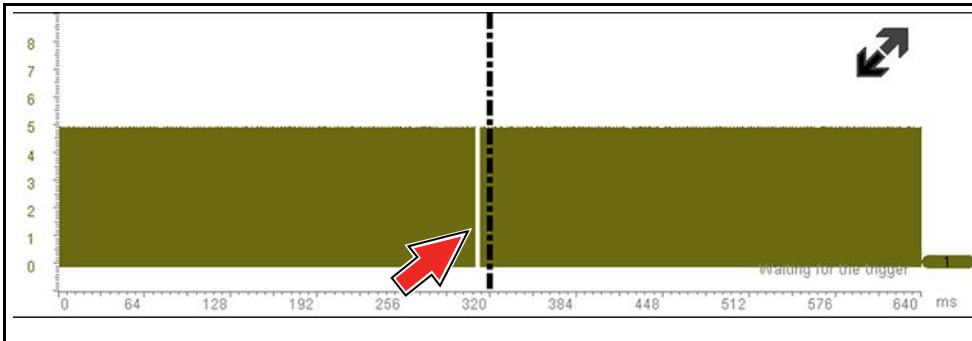

Figure 12-40
**2** - Pause data capture and then zoom out (this example is at 256X) to see more data and to possibly find a glitch (*Figure 12-40*). In this example the cursor has been placed on the right side of a glitch. The waveform is too compressed to see any detail, however the glitch stands out as a thin light area in the waveform.